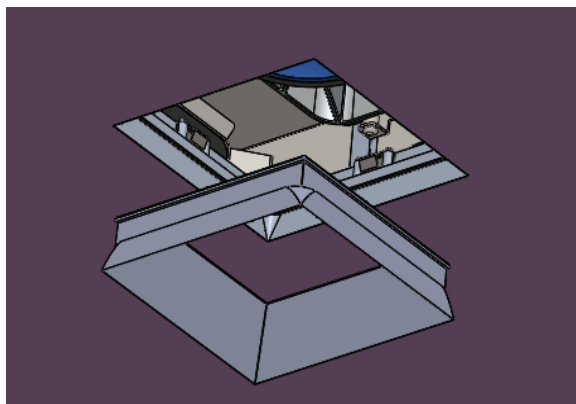

fig. 11
- a. Press the flangeless trim into the trim retainer. (see fig. 11)